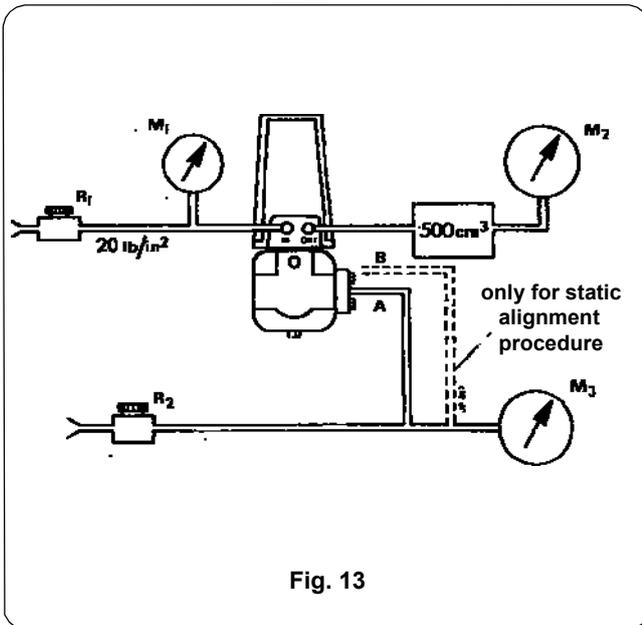

Fig. 13
- a) Connect the preceding equipment to the transmitter in accordance with Fig. 13.
- c) Switch on the transmission air supply at the pressure source (Fig. 13) and set the pressure regulator to zero pressure.
- Set up the transmitter, connect to the test rig (Fig. 13) as described in the previous paragraph, and check calibration.
- Connect the transmitter to the test rig (Fig. 13) and check for calibration. For this check the elevation mechanism must be removed.
(Fig. 13 and 13a)
- Connect the transmitter as shown in Fig. 13.
- Loosen and swing the plate screw 14 (Fig. 13) on the relay block and swing the plate side-ways to release the nozzle supply pipe connection.